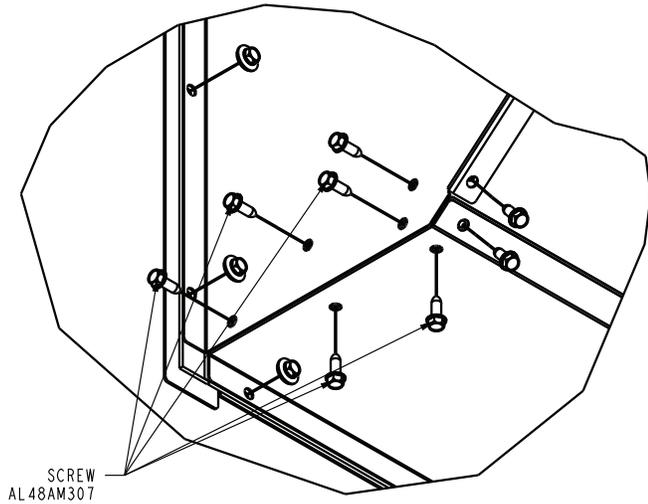

Fig. 79 – Securing the Bottom Panel
8. After attaching bottom panel to unit, attach bottom panel to side panel using the 1/4 in.-14 x 5/8 in. long sheet metal screws (without neoprene washer). See Fig. 79.